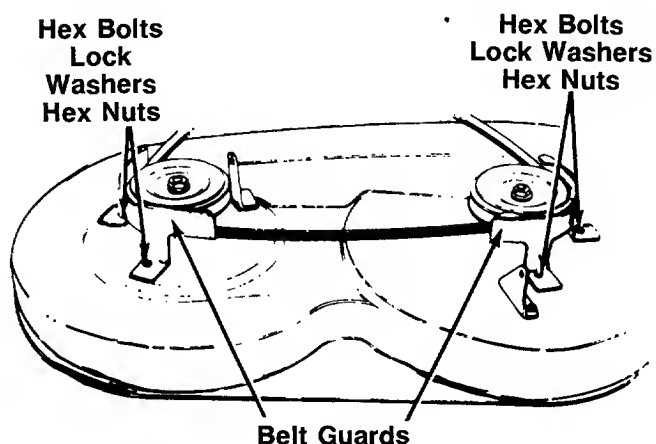

FIGURE 22.
7. Remove the belt guards at each deck pulley by removing the hex bolts, lock washers and hex nuts. See figure 22.